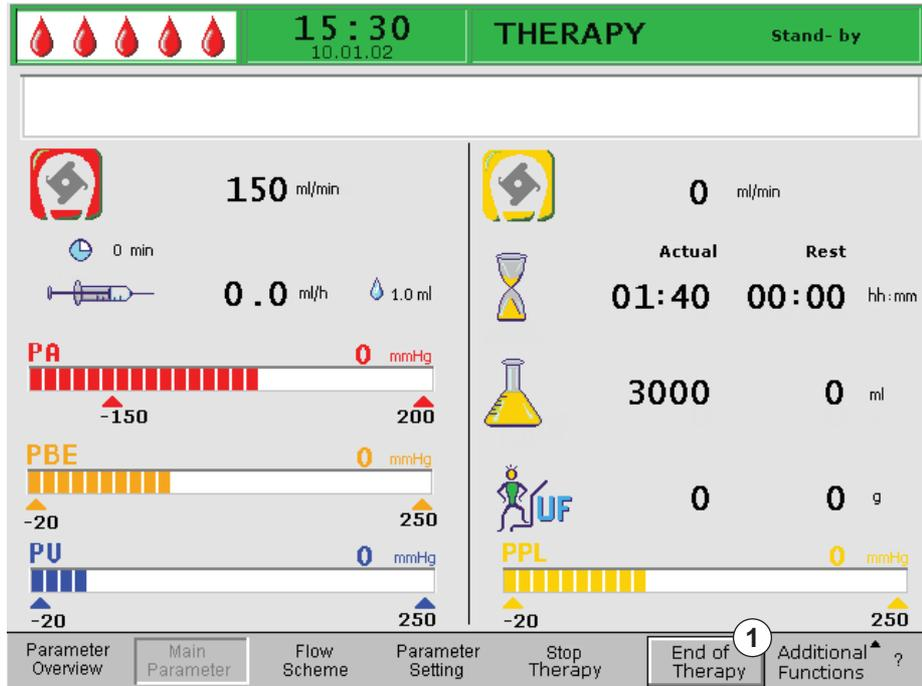

Fig. 7-5 Main Parameter screen with *End of Therapy* menu item
When the treated plasma volume is achieved, the machine switches to the stand-by mode. The blood circuit continues to circulate with the most recent blood flow rate selected. The cursor automatically points to the *End of Therapy* menu item in the menu bar (Fig. 7-5, ①).